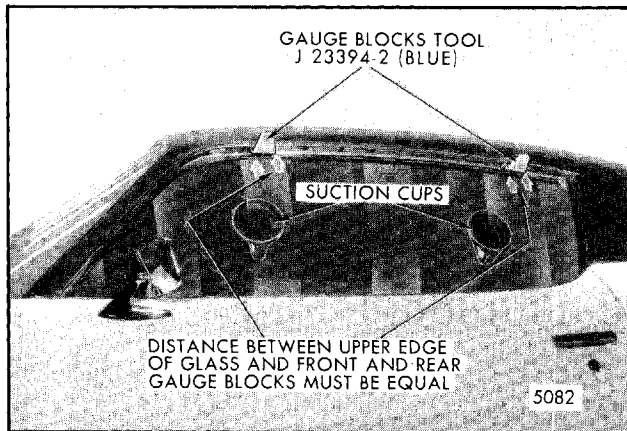

Fig. 5-122-Door Window - Rotated Glass Alignment - F Styles
2. Lower window and install gage blocks, tool J-23394-2 (blue) or equivalent, into side roof rail weatherstrip retainer as shown in Figure 5-122 with handles outboard. Make sure gage blocks are fully engaged in retainer. Install suction cups on interior glass surface to aid glass adjustment.
3. Loosen up-stops (1 and 2) and trim retainers (3).
4. **Parallel Alignment:** With door closed, raise window to within 1" of full up position (Fig. 5-122). If edge of glass spacing to gage blocks is not equal, adjust inner panel cam (8).